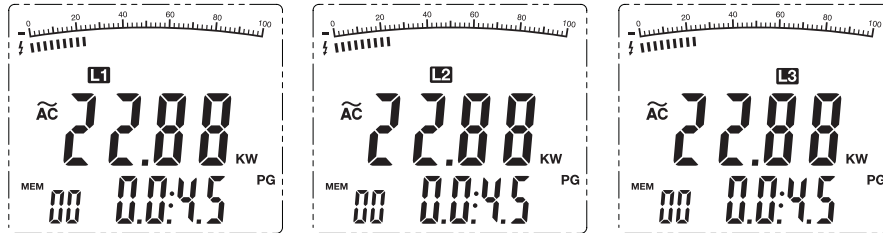

Figure 8
3. Set the meter to **kW**. The dual display shows the Active power kW value and the Phase Angle (PG) value.
4. Press the **L1-L2-L3** button to choose the first phase **L1** (see figure 8).
5. Press the Σ button to save and sum the measured value for **L1**. (see Figure 8)
7. Press the **L1-L2-L3** button to choose the first phase **L2**. The primary display shows the kW for phase L1 and the secondary display shows the Phase angle (PG).
8. Press the Σ button to save and sum the measured value for **L2**. (figure 8). The primary display shows the kW for phase L2 and the secondary display shows the Phase angle (PG).
10. Press the **L1-L2-L3** button to choose the first phase **L3**. The primary display shows the kW for phase L3 and the secondary display shows the Phase angle (PG).
11. Press the Σ button to save and sum the measured value for **L3**. (figure 8)
4. Press the **L1-L2-L3** button to choose the first phase **L1** (see figure 8). The primary display shows the kW for phase L1 and the secondary display shows the Phase angle (PG).
7. Press the **L1-L2-L3** button to choose the first phase **L3**. The primary display shows the kW for phase L3 and the secondary display shows the Phase angle (PG).
8. Press the Σ button to save and sum the measured value for **L3**. (figure 8)